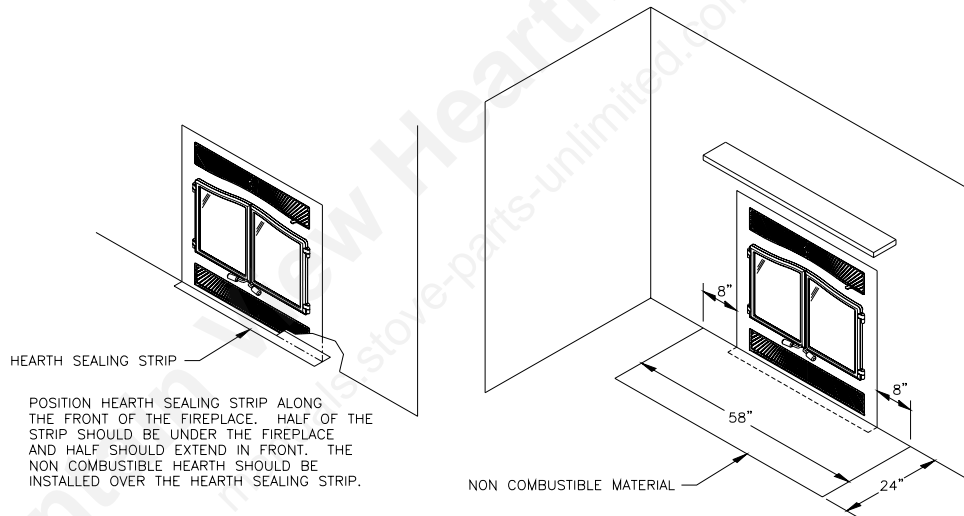

FIGURE 10: INGLENOOK FIREPLACE HEARTH EXTENSION REQUIREMENTS
A combustible floor in front of the fireplace must be covered with tile, marble, stone or any other non-combustible material. Figure 10 demonstrates the vertical relationship between the fireplace, the sealing strip and the hearth extension. **WARNING:** A hearth extension is to be installed only as illustrated in Figure 10 and in conformance with any local building codes. It is recommended that either a sealing strip or sand-cement grout be used between the hearth and the on-site construction hearth extension. The factory provides a non-combustible sealing strip for use in the hearth extension. All hearth extensions must have an R-value of 2.0 or greater to ensure proper floor protection. If thermal conductivity (k-factor) or thermal conductance (C-factor) is used instead of thermal resistance (R factor) the use the relationships as follows a) k-factor is given with required thickness (T) in inches as $R = 1/k \times T$ or b) C-factor is given as $R = 1/C$.